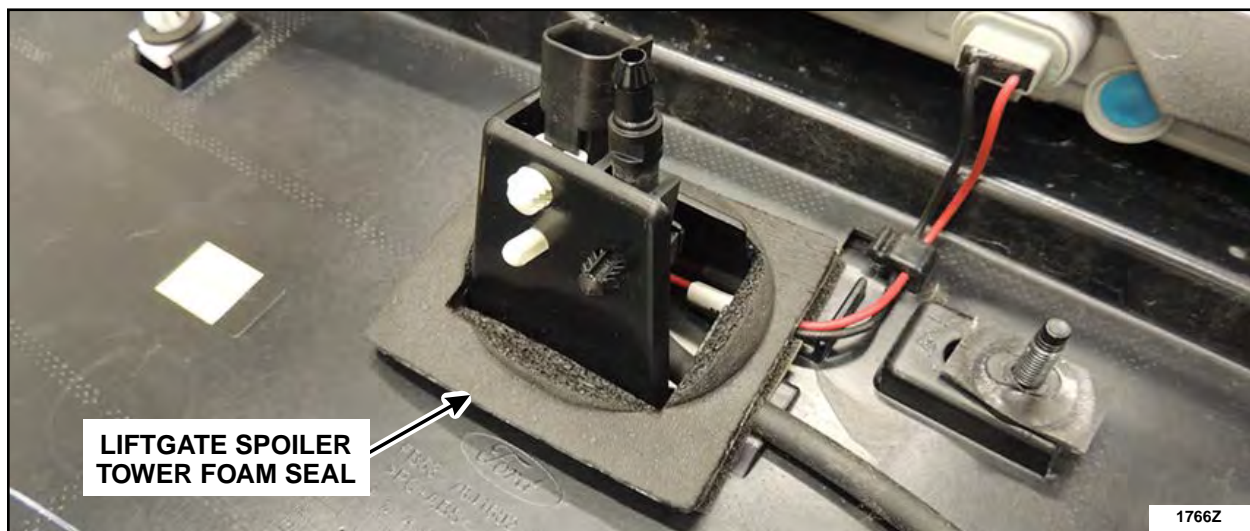

FIGURE 12
4. Remove the liftgate spoiler tower foam seal. See Figure 12.